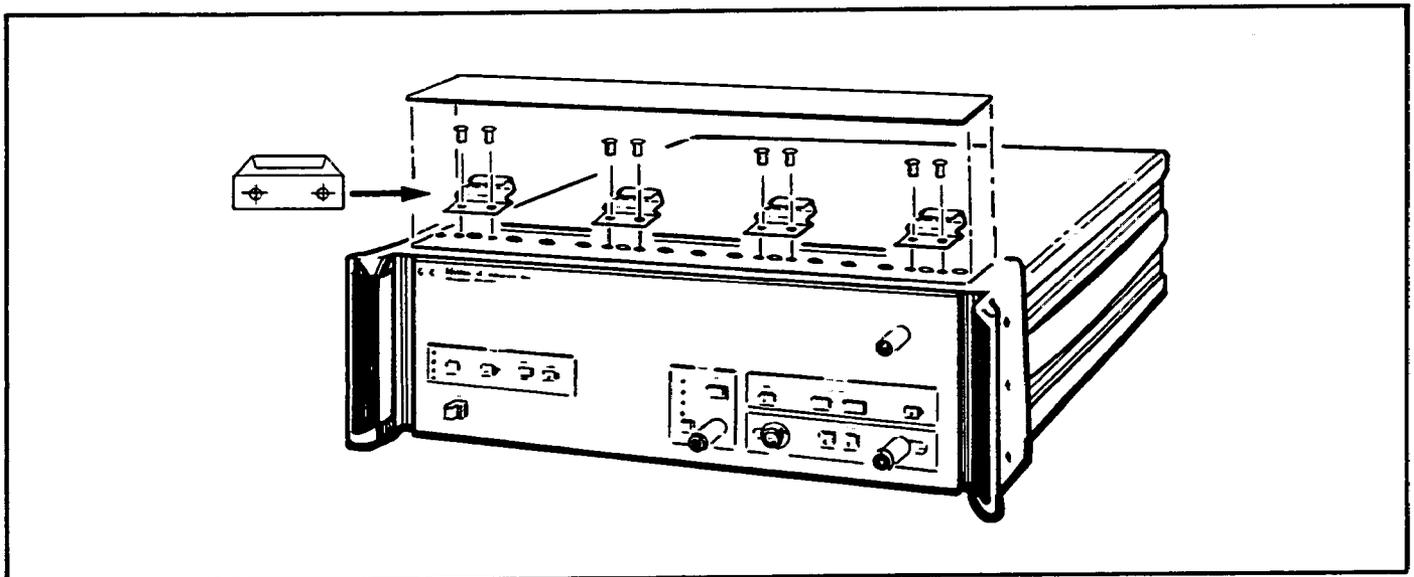

FIGURE 2-2. LOCK-LINK INSTALLATION
2. Fasten the lock links to the top of the preselector, as in Figure 2-2.